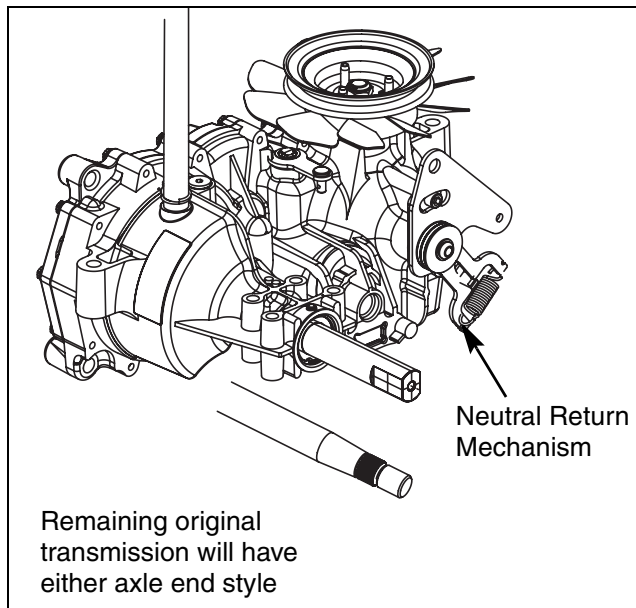

FIGURE 2
3. See Figure 2 for location of the neutral return mechanism.